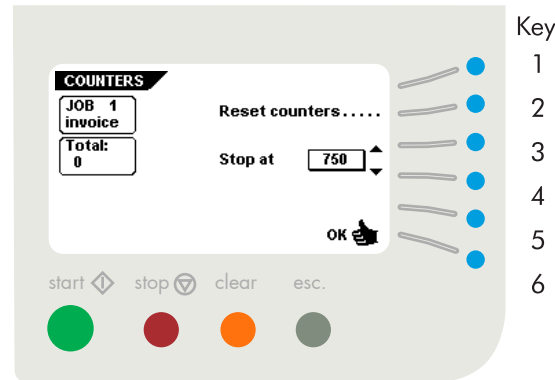

Fig. 23
After pressing key 4 in the "main menu (1)", the display shows the "counters" menu (Fig. 23). The "counters" menu shows the following functions:
- reset the daily job counter and stopcounter to zero (key 2).
- increase the preset counter (key 3).
- decrease the preset counter (key 4).
- save the counter settings with "OK" (key 6) which will get you back to the "main menu (1)". The counter settings are job related.